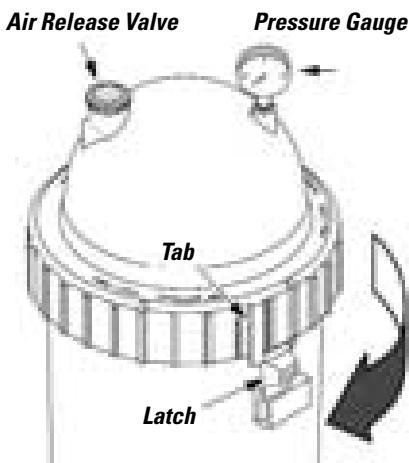

Fig. 2 – Rotate Posi-Ring™ until tab locks behind the safety latch.
1. Securely lock the Posi-Ring™ in place by rotating it **CLOCKWISE** until it »clicks« past the safety latch (see Figure 2). Stop turning as soon as the ring clicks past the latch. The ring may feel slightly loose, but it will tighten up when pump is on and filter is under pressure.
2. Install the pressure gauge and the air release valve (see Fig. 2) on the tank lid.
- C. Rotate the Posi-Ring™ clockwise until it locks behind the safety latch (see Figure 2).